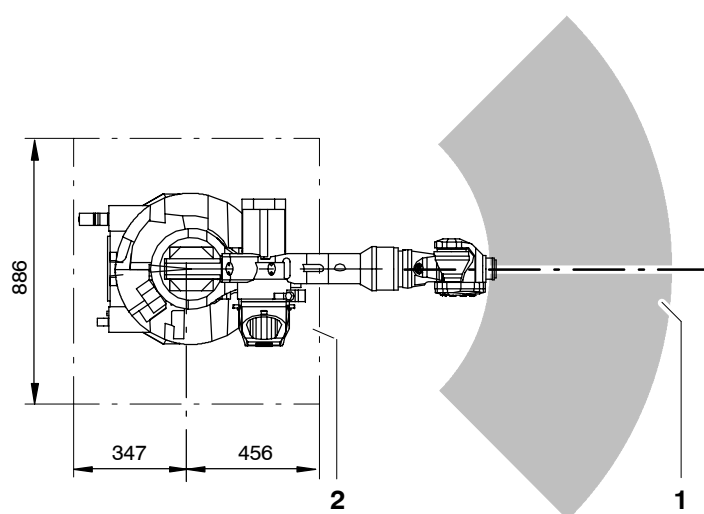

Fig. 51 Orientation of working envelope and concrete foundation
- (3) Mark the position of the manipulator in relation to the working envelope (Fig. 51/1) on the concrete foundation (2).
- (4) Move manipulator to the installation position.
- (5) Align the manipulator horizontally.
- (3) Determine the position of the manipulator on the concrete foundation (2) in relation to the working envelope (Fig. 51/1).